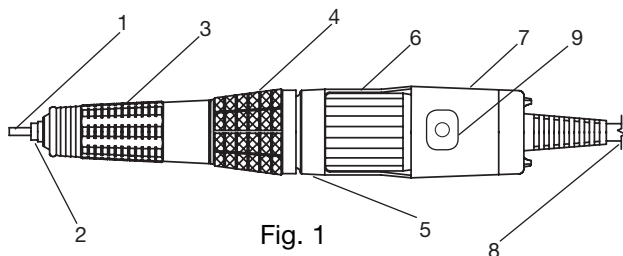
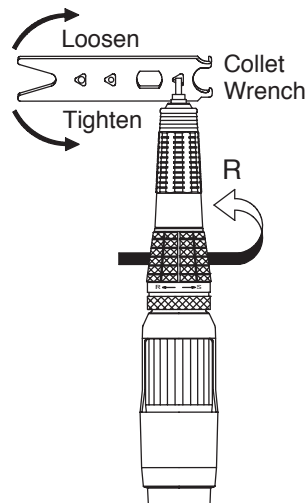

Fig. 1
Fig. 3b
2. Parts Nomenclature (Fig. 1)
If the handpiece collet is so tight that the above procedure will not loosen it, then remove the Head Assembly from the Motor Assembly. This can be done by grasping the Motor Connecting Ring (see Fig. 1) and pulling upward. Insert the Chuck Joint Wrench (see Fig. 3b) into the Nylon Coupler (#510-0151), hold the Head Assembly and Chuck Joint Wrench securely in one hand, and with the Collet Wrench in place on the collet, loosen in a counterclockwise direction (for parts drawing, refer to page 11.)